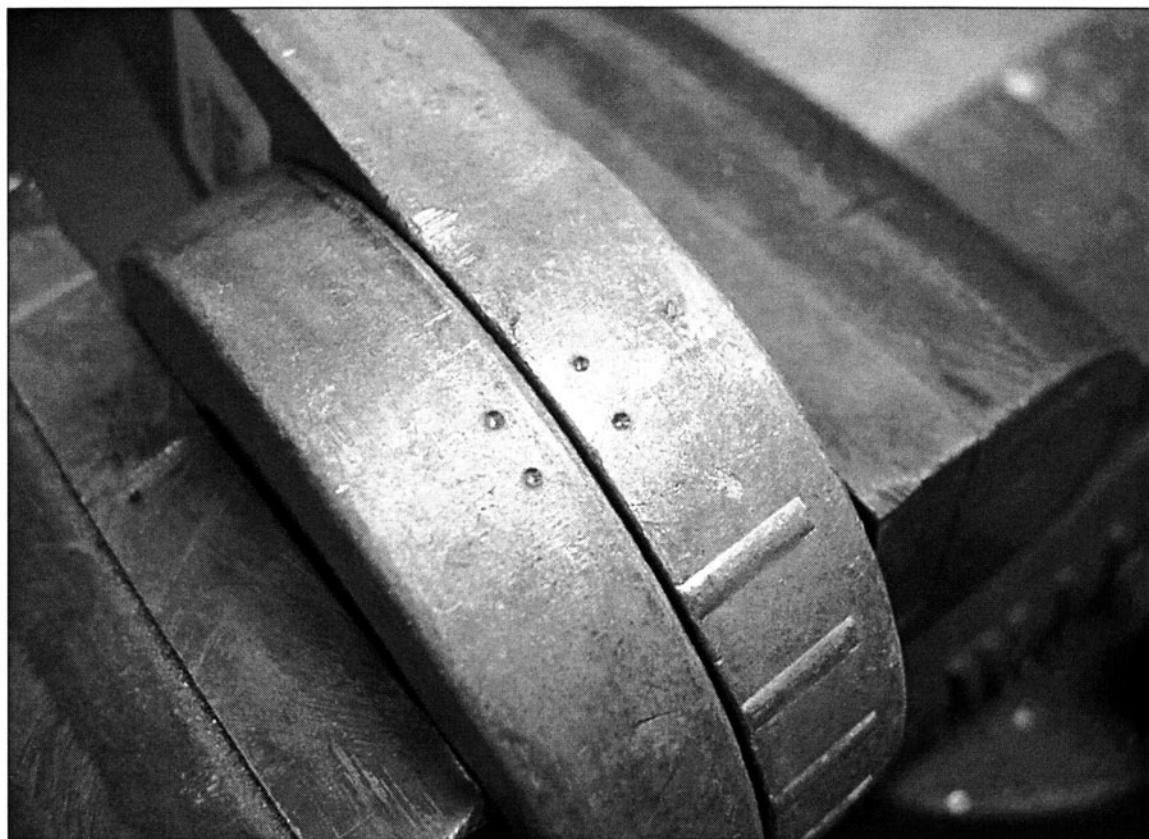

FIGURE 6-12 Punch marks can be used as visual aids to locate parts in assemblies.
19. Use prick punch marks to identify part orientation in assemblies. (See Fig. 6-12)